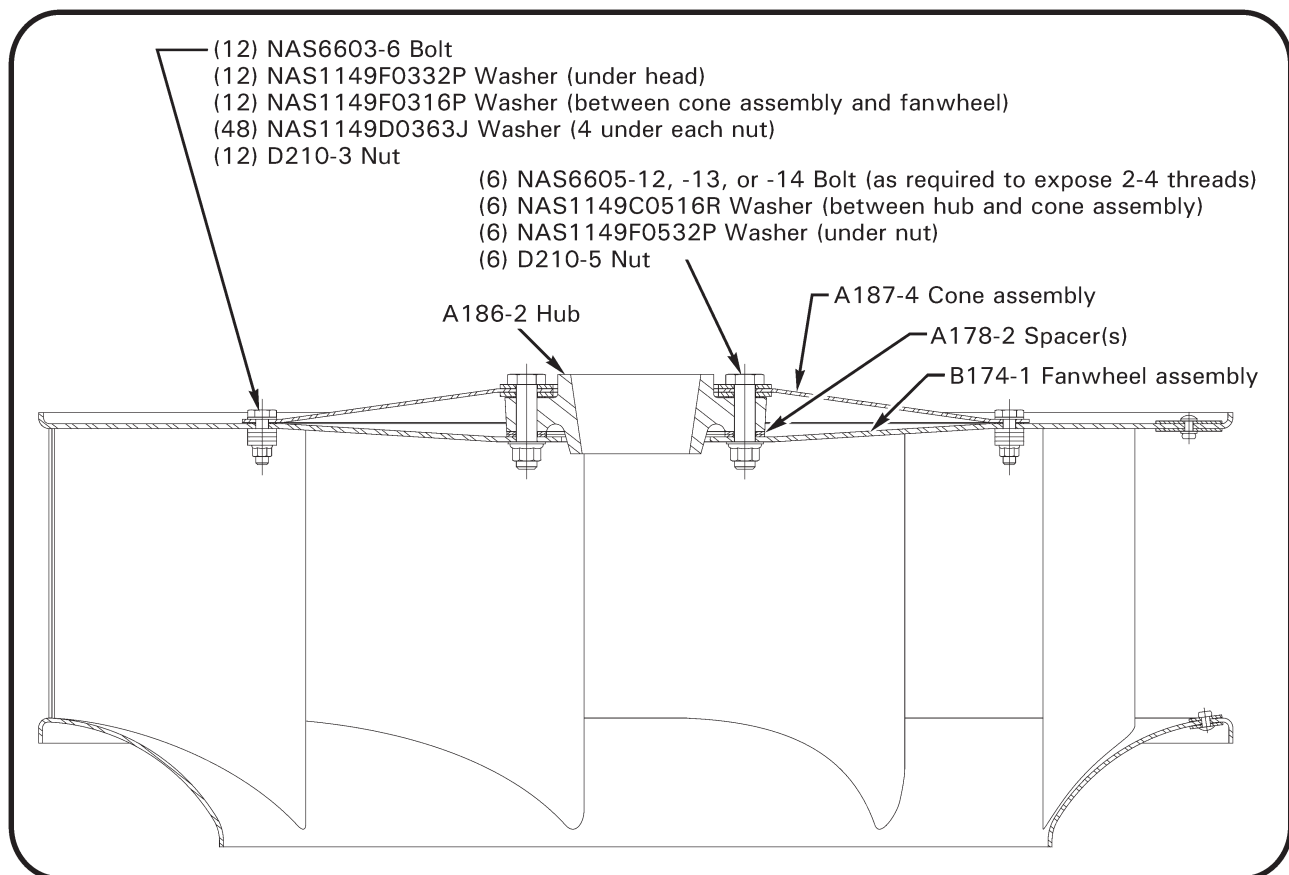

FIGURE 2-19 B174-1 FANWHEEL ASSEMBLY
3. Refer to Figure 2-19. Remove hardware securing A187-4 cone assembly, A186-2 hub, and A178-2 spacer(s) to fanwheel and remove parts, noting relative locations for identical reassembly.